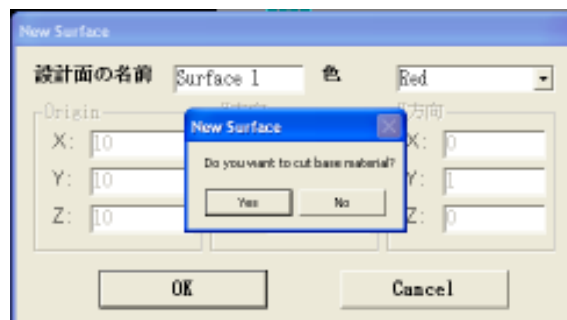

Figure 2-10. Confirmation of the new surface generated
7. Click the "Design Surface" icon, and click on "Create" button. A dialog box of Figure 2-10 will appear listing all of the origin point to confirm the new surface. Give a name of the design surface, and select the color for machining features that will be generated on the new surface (red is a default). Click OK then a small message window will appear to ask if user want to display the cut base material. Select "YES".